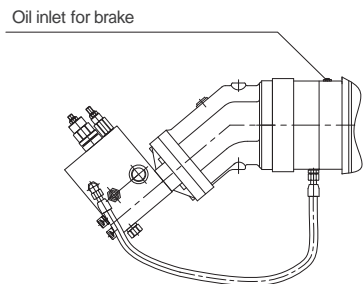

Figure 13
1. Open the oil inlet upper on the brake, see figure 13